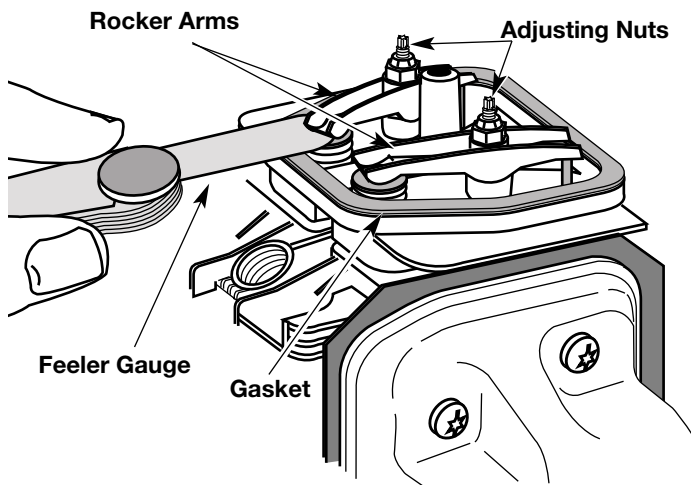

Fig. 42
- Slide the feeler gauge between the rocker arm and the valve return spring. Measure the clearance between the valve stem and rocker arm (Fig. 42). Do both intake and exhaust valves.
- Turn the adjusting nut using a 5/16 inch (8 mm) wrench or nut driver (Fig. 42).